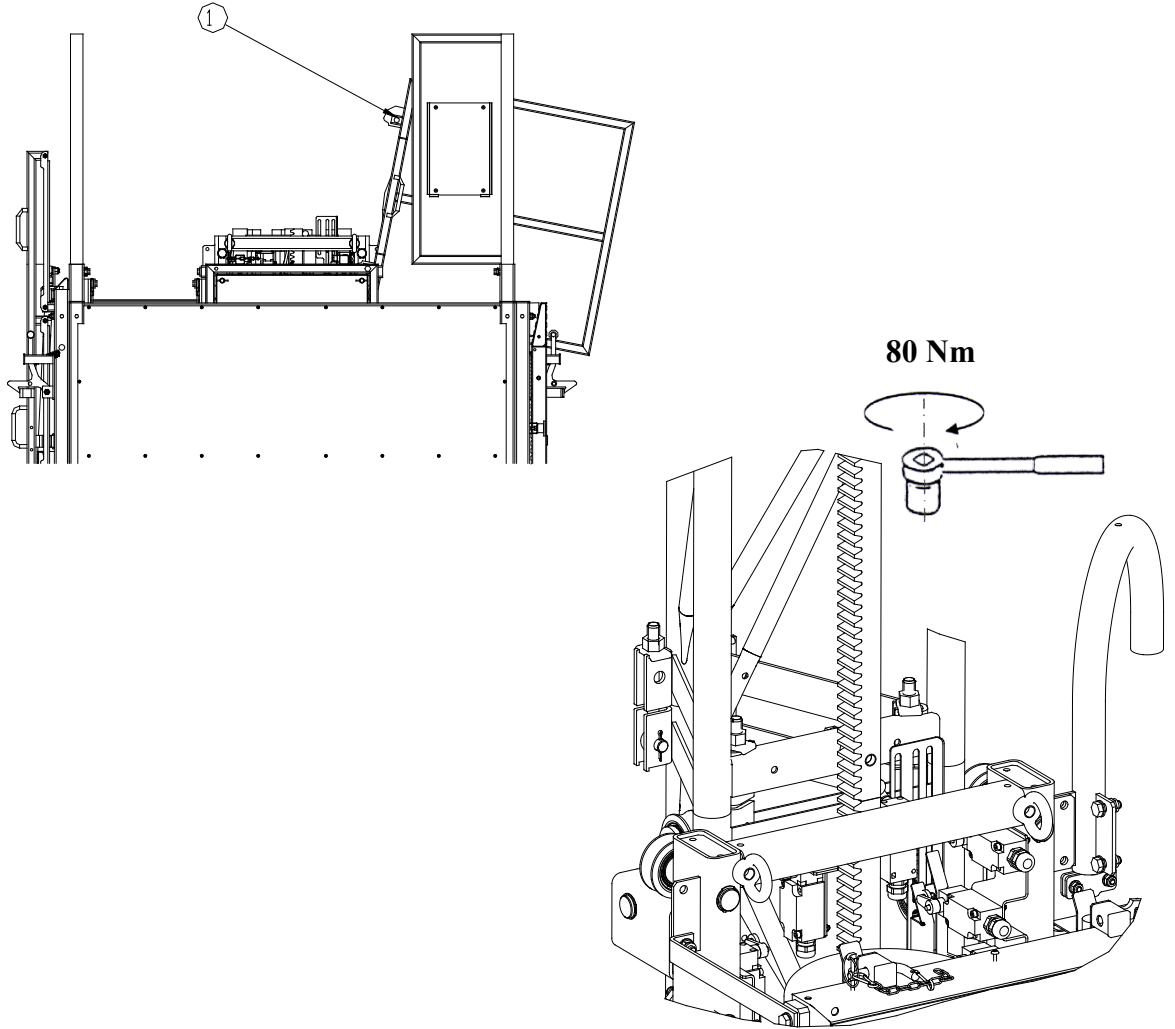

Fig.H.16 Tightening of mast bolts
50. When the correct height has been reached, open the mast protection (1-fig.H.16) and placed a mast section onto the previously fitted mast section, secure it with four eyebolt M16 (material class 10.9; tightening torque 80 Nm).